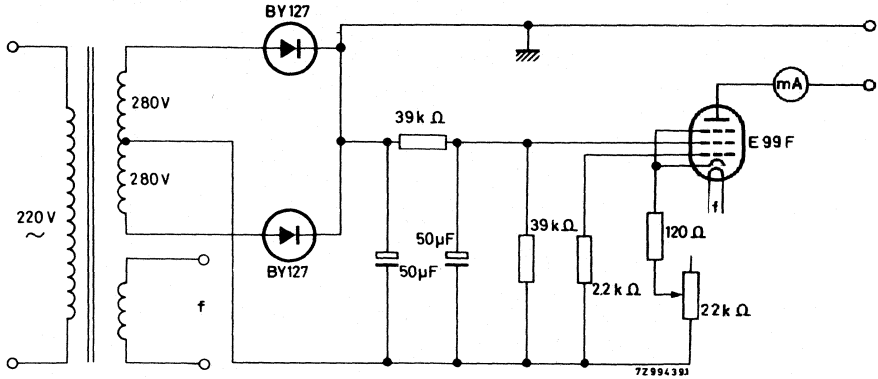

Fig. 9
A d.c. current source which supplies a constant direct current (I) of e.g. 1 mA, is connected to the pins a and b of the potentiometer; for the diagram of the d.c. current source, see Fig. 9. The d.c. voltage (V) resulting from the contact resistance (R_C) and the d.c. current is measured between the pins b and c ($V = I \cdot R_C$).